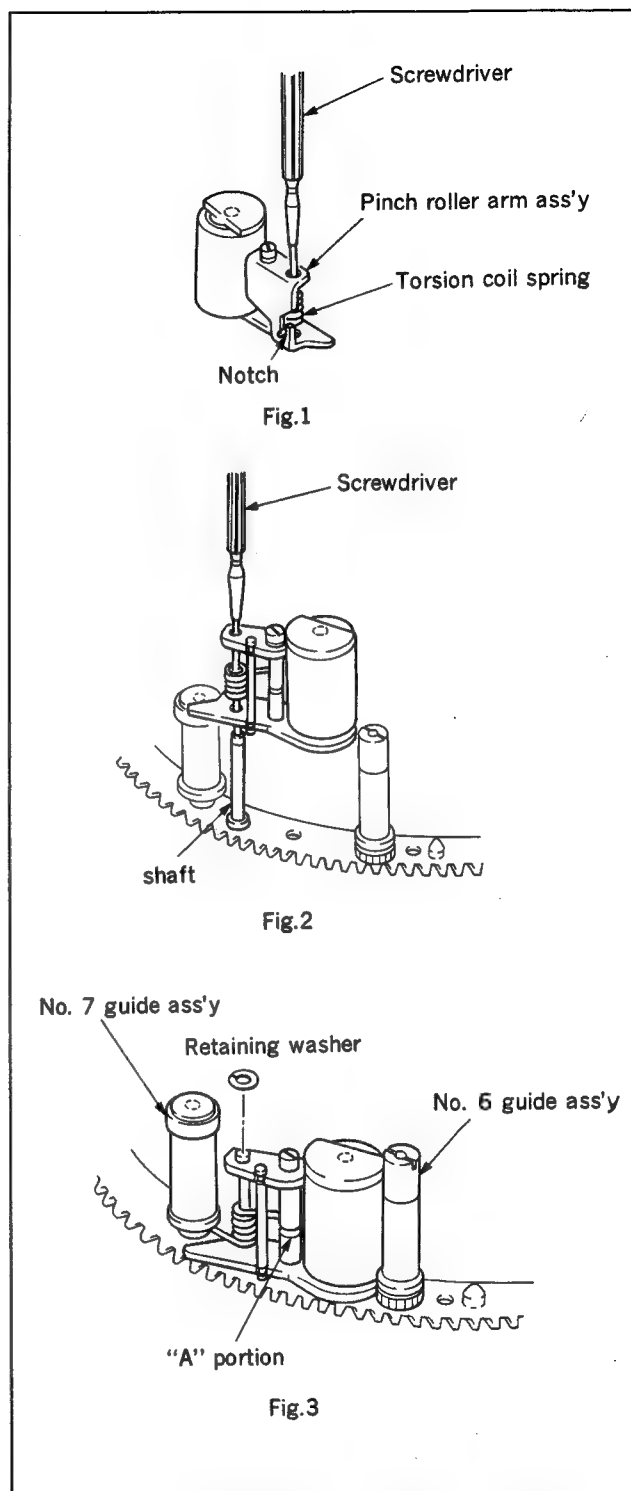

Fig. 4-6-2 Installing the pinch roller arm ass'y
3. Pinch roller arm ass'y replacement/installation (Fig. 4-6-2)